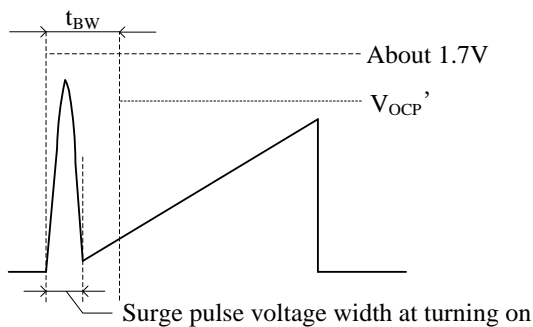
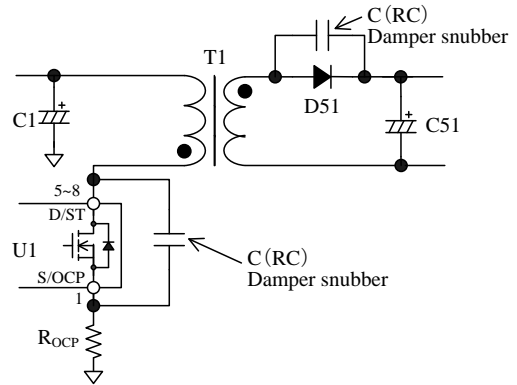

Figure 9-9 S/OCP pin voltage
Figure 9-10 Damper snubber
During Leading Edge Blanking Time, the OCP threshold voltage becomes about 1.7 V which is higher than the normal OCP threshold voltage as shown in Figure 9-9. Changing to this threshold voltage prevents the IC from responding to the surge voltage in turning-on the power MOSFET. This function operates as protection at the condition such as output windings shorted or unusual withstand voltage of secondary-side rectifier diodes.
When power MOSFET turns on, the surge voltage width of S/OCP pin should be less than  $t_{BW}$ , as shown in Figure 9-9. In order to prevent surge voltage, pay extra attention to  $R_{OCP}$  trace layout (refer to Section 10.2). In addition, if a C (RC) damper snubber of Figure 9-10 is used, reduce the capacitor value of damper snubber.